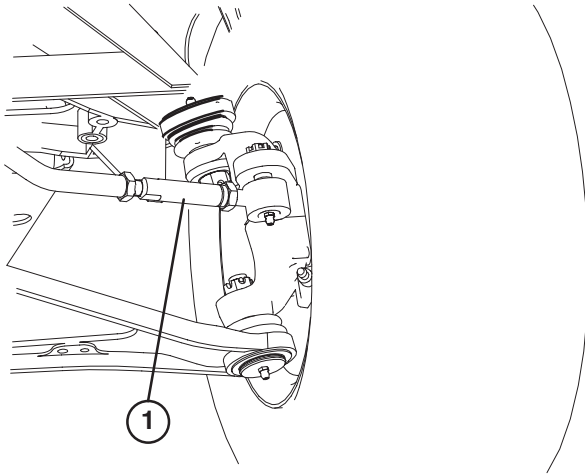

Figure 53
- On the left front wheel, loosen the jam nuts at both ends of the turnbuckle (Fig. 53).